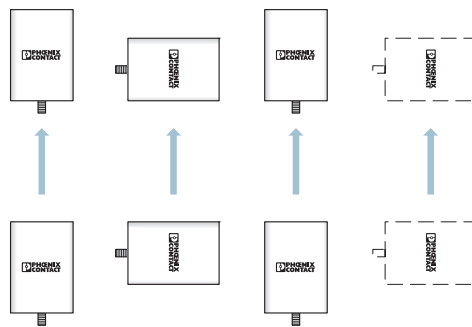

Figure 9-7 Decoupling wireless paths due to directivity and different polarization levels
- Multiple point-to-point paths, decoupling due to directivity and different polarization levels (see Figure 9-7)